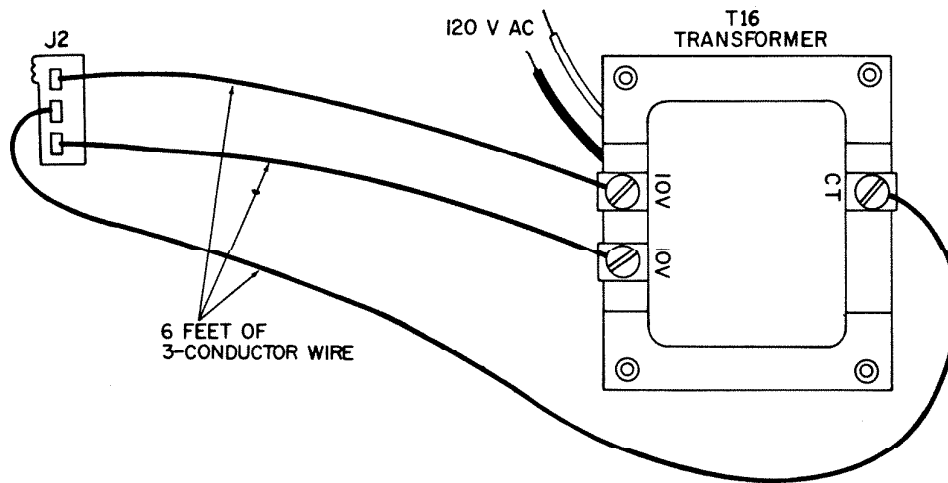

Fig. 5. Auxiliary power transformer assembly.
1. An auxiliary power transformer assembly is required to apply power to the master when it is removed from the wall mounting for testing on the bench. Fabricate the auxiliary power transformer assembly as shown in Fig. 5. Connect J2 and P2 on the master and connect the power transformer to 120VAC.